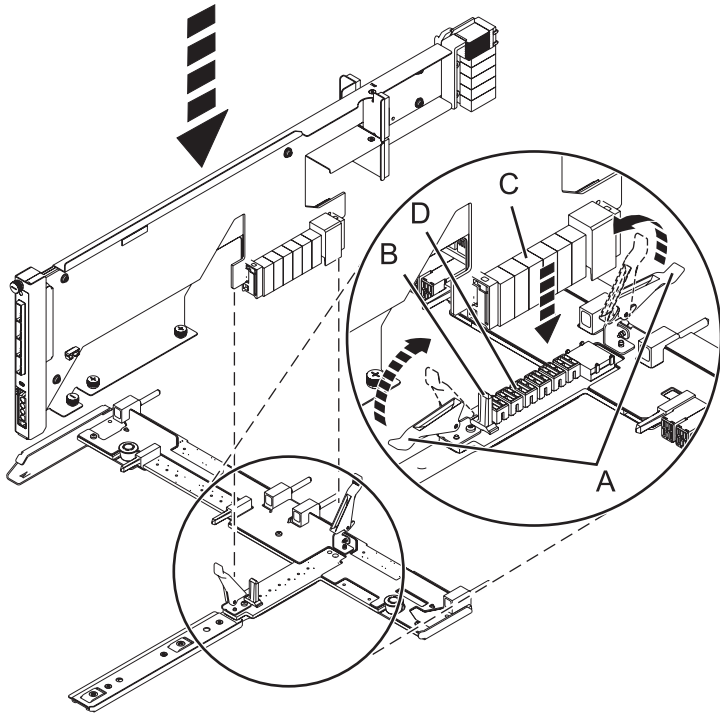

Figure 73. Installing the SAS conduit card into the midplane
- a. Place the card connector (C) on the midplane connection (D) using the guide track (B) to ensure a good connection.
- b. Lift the handle (A) to seat and secure the SAS conduit card to the midplane as shown in Figure 73.